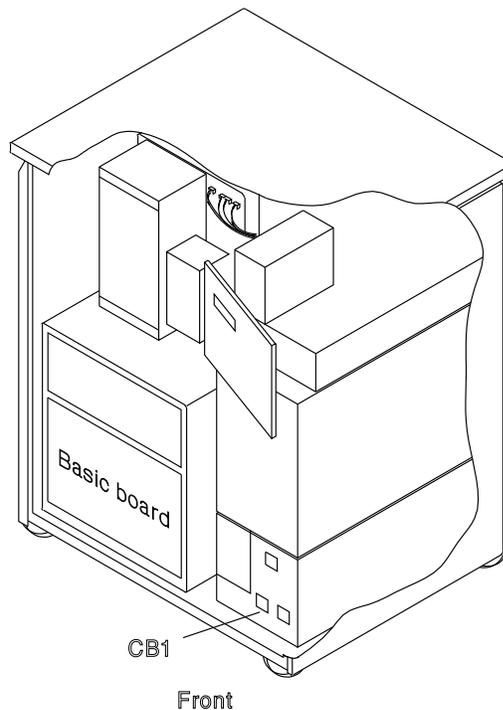

Figure 4-45. Basic Board and CB1 Locations
4. **Switch CB1 OFF.** Refer to Figure 4-45.
5. Locate the basic board. Refer to Figure 4-45.